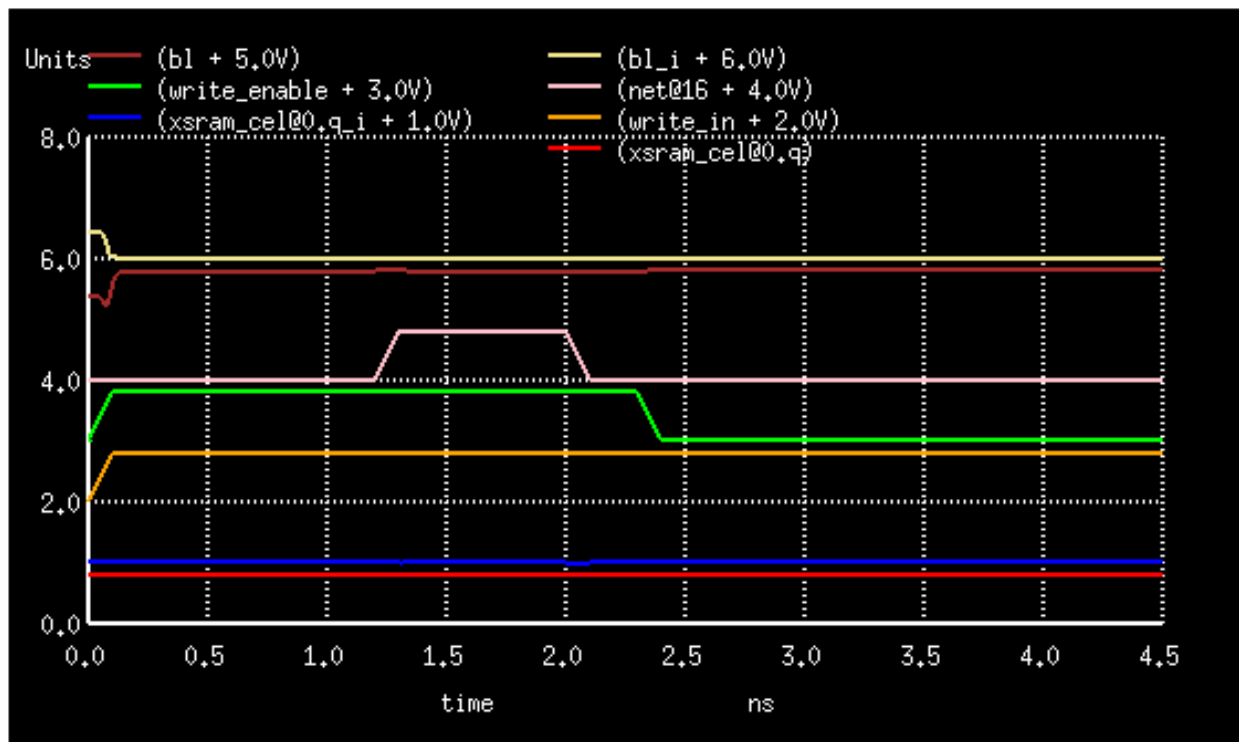

Figure 9: Writing 1
4. Writing a 1 to a cell with 1 (Figure 9). This is the same case as (3) in that the cell already starts with $Q = 1$, but we instead write a 1.